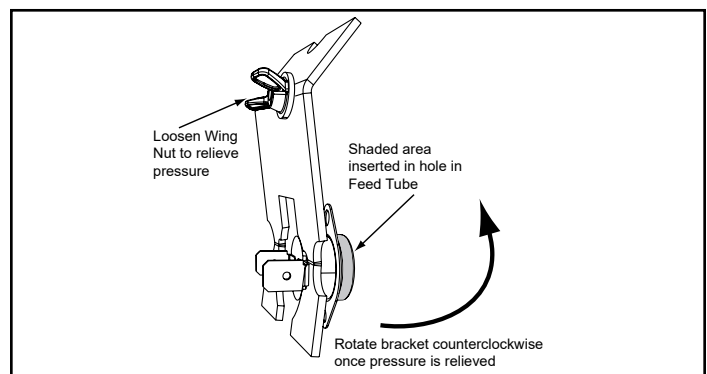

Figure 26.4
**NOTE:** You may need pliers to start the wing nut (**Figure 26.4**).